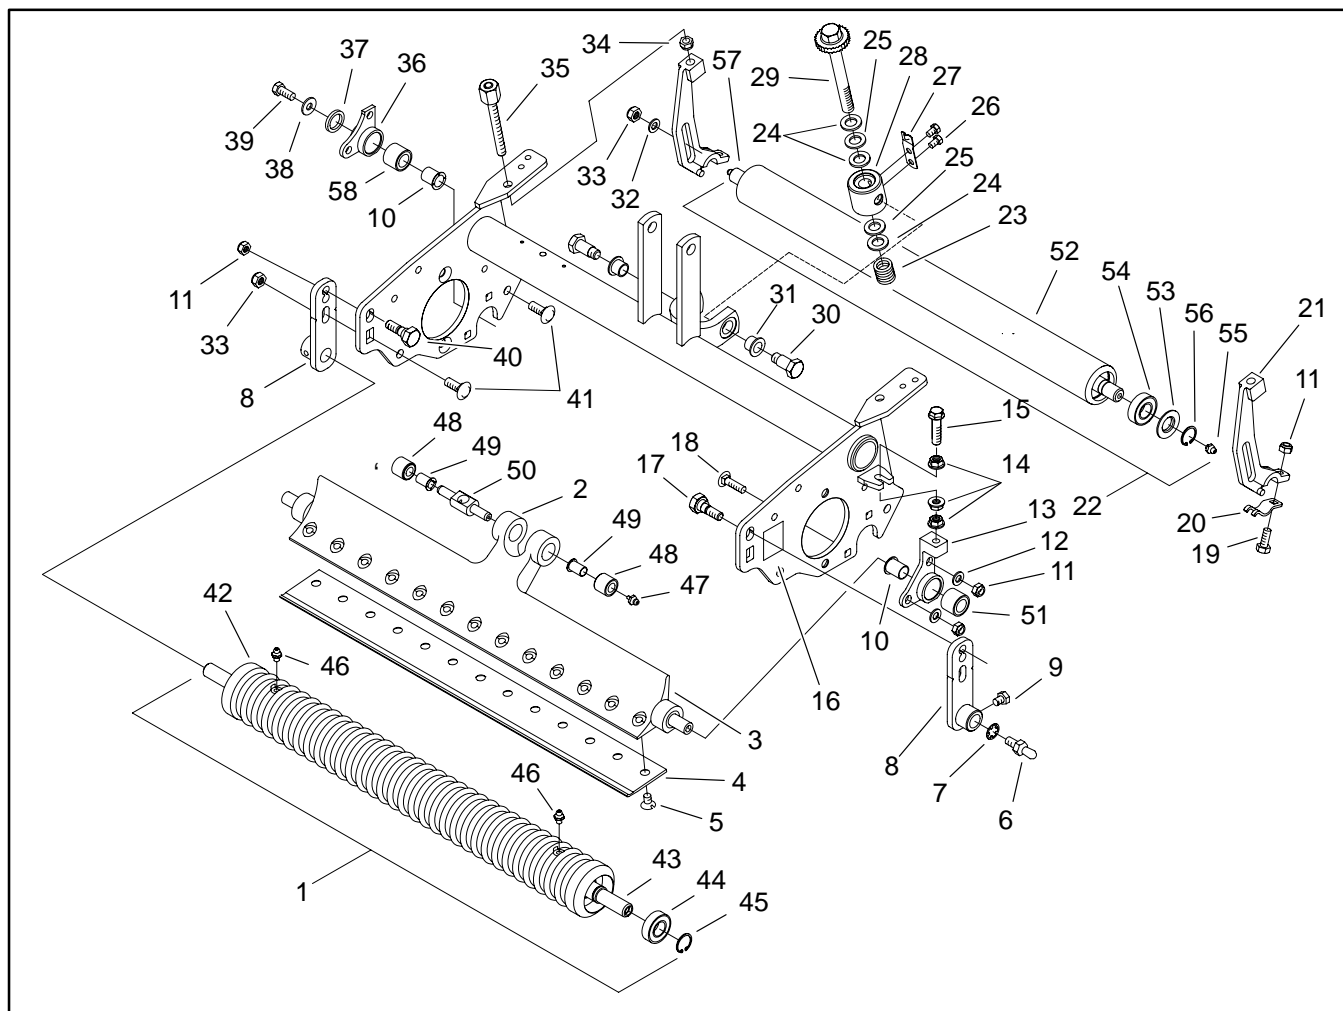

Figure 42
**Note:** Figure 42 shows the Rollers and Bedbar Assembly for a Single Point Adjust (SPA) cutting units. Both the SPA and 4-Bolt cutting units are similar in construction. Roller and Height-of-Cut (H-O-C) Adjuster replacement procedures are the same for each unit.
### Removal (Fig. 42)
### Installation (Fig. 42)